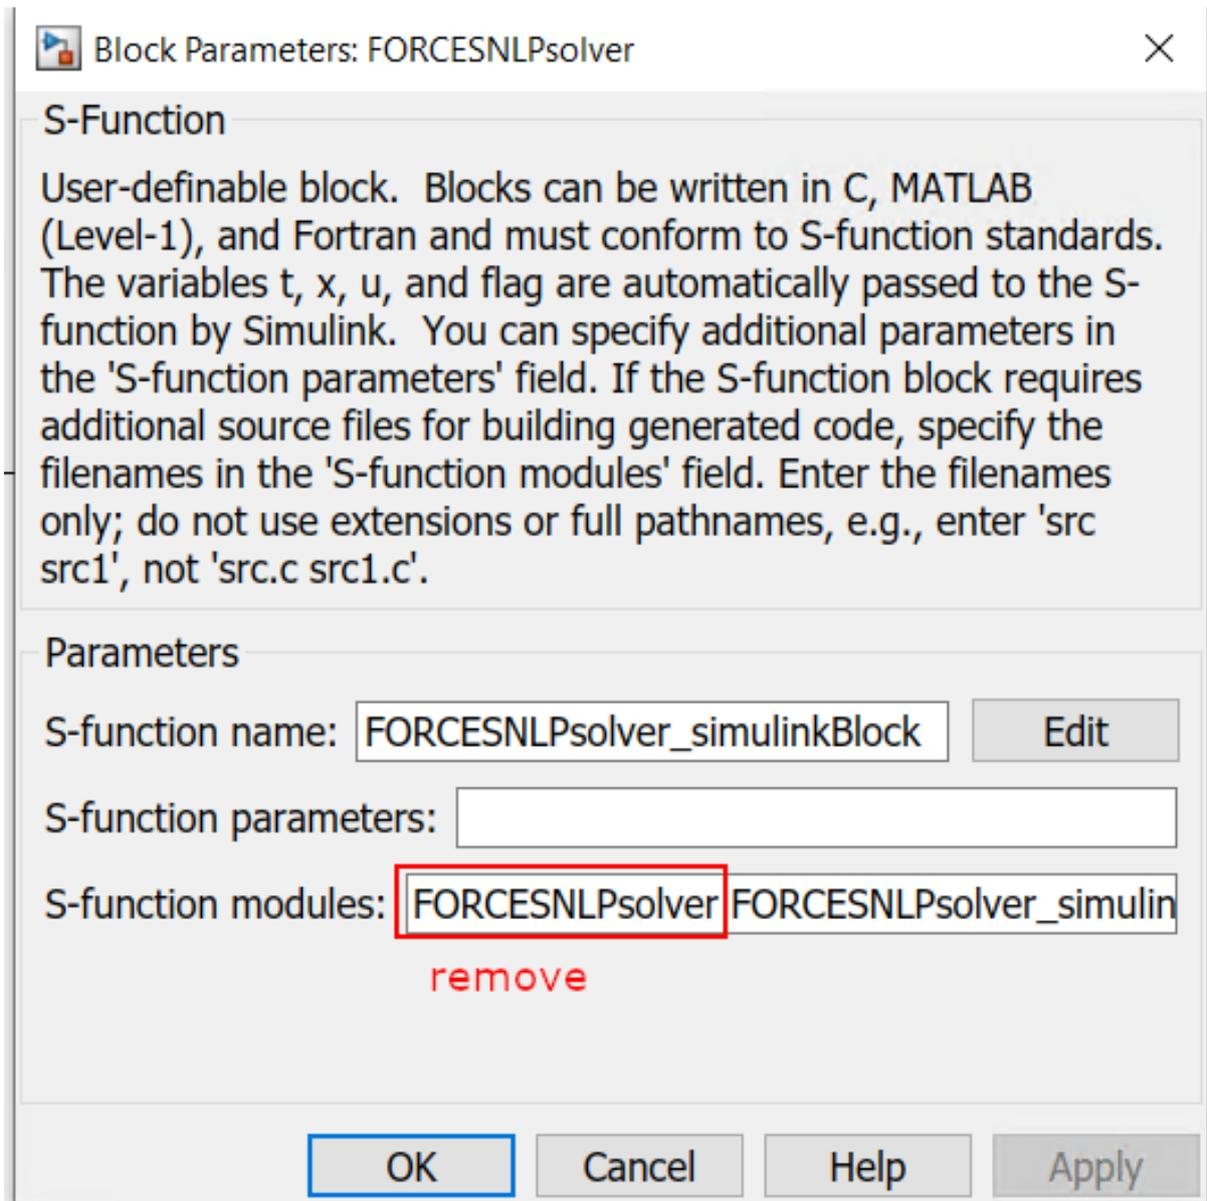

Figure 13.43: Remove the leading solver name from the S-function module.
- 14) Remove the "FORCESNLPsolver" prefix from the S-function module (see Figure 13.43).